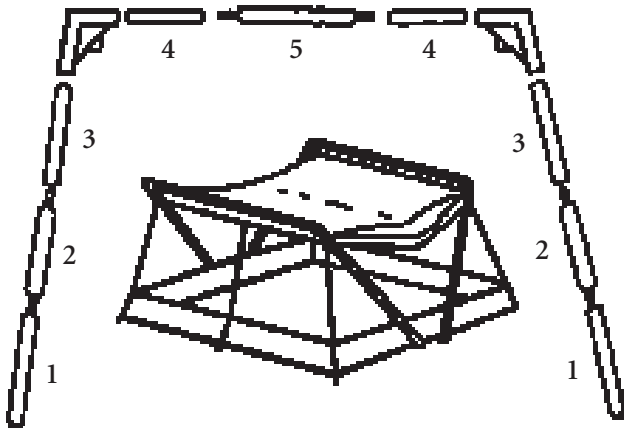

FIG. 1
- Join the #4 poles to the #5 poles through the large loops at the roof edges (fig.1).
- Join the #1 & #2 & #3 poles together in (fig.1) and then join #4 & #3 into the corner connector.
- Raise the outside frames into position (fig. 1). At least two people are needed.